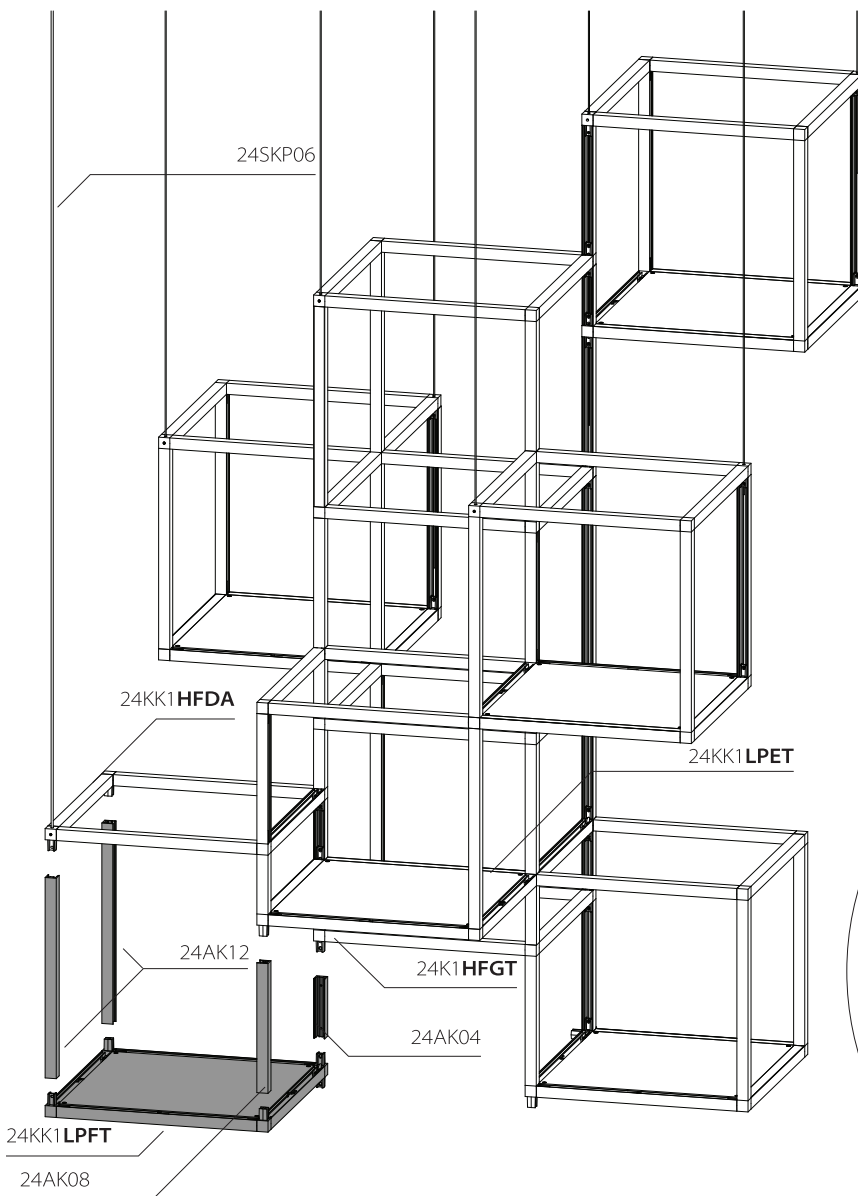

Fig. 16a
- 14a. Install (2x) 24AK12, (1x) 24AK08, and (1x) 24AK04 to 24KK1LPFT in the orientation shown in Fig. 16a making sure that 24AK04 is on the 4 way connector.